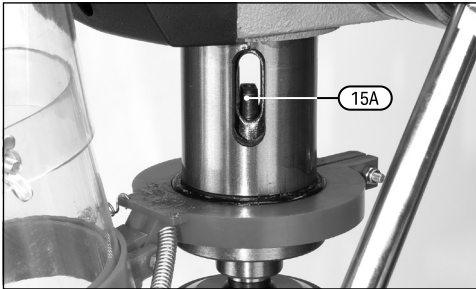
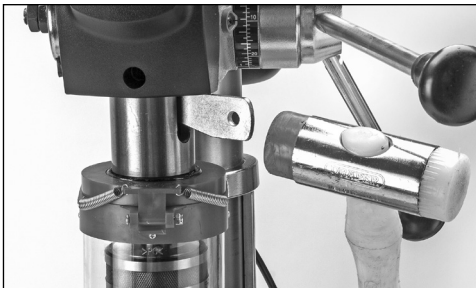

Fig. 21
Fig. 22
8.3 Arbor Removal (Fig.21 – Fig.22)